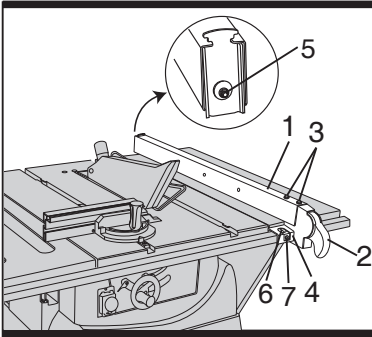

Fig 16
- 1) The fence (1) is moved by lifting the handle (2) and sliding the fence to the desired location. Pushing down on the handle locks the fence in place.
- Loosen the two bolts (3), and lift the handle (2).
- Hold the fence bracket (4) firmly against the front of the saw table. Move the far end of the fence until it is parallel with the mitre gauge groove.
- Lift the handle (2) and turn the adjusting nut (5) clockwise until the rear clamp is snug. Do not turn the adjusting screw more than 1/4 turn at a time.
- Over-tightening the adjusting screw could bend the rear clamping lever, which may cause the fence to come out of alignment (See fig. 16).
Tighten the screw, and remeasure with the ruler (See fig. 16).